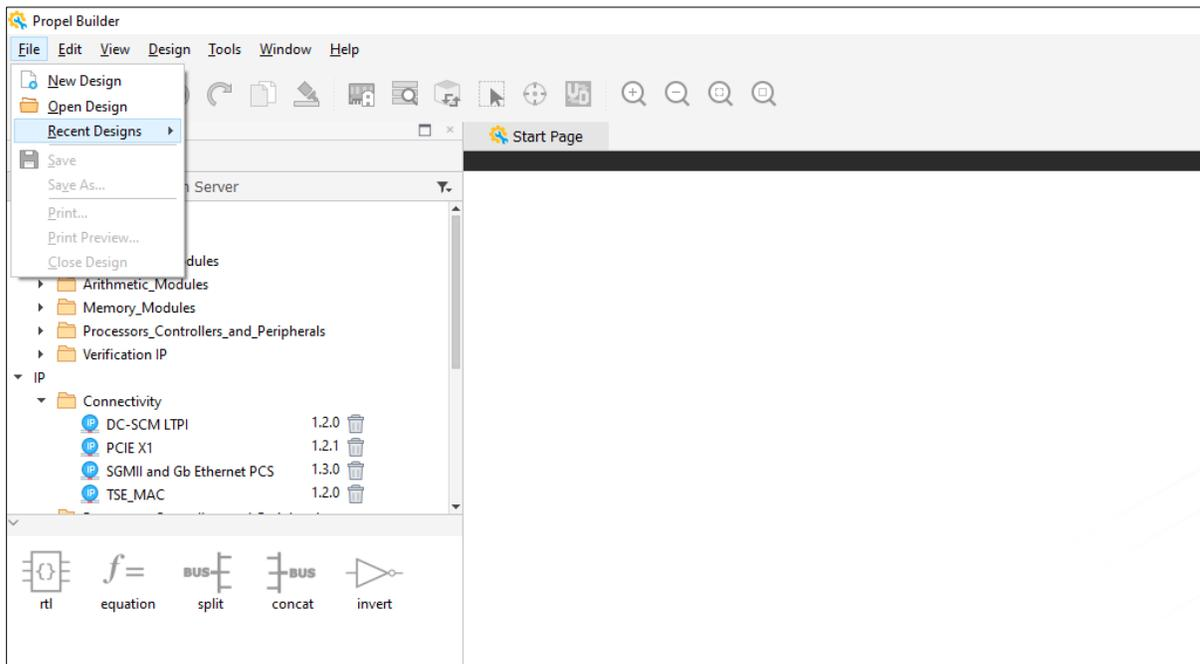

Figure 2.16. Open Recent Project
4. You can also use **File > Recent Designs** from Propel Builder Menu (Figure 2.16) to quickly open a recently closed project.